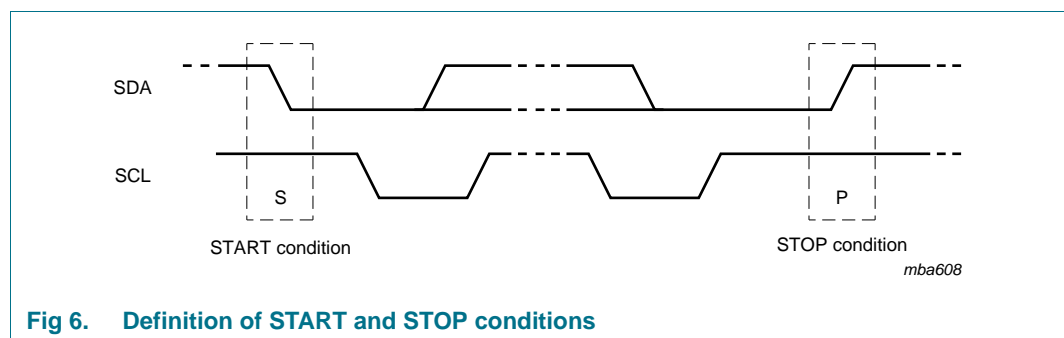

Fig 6. Definition of START and STOP conditions
Both data and clock lines remain HIGH when the bus is not busy. A HIGH-to-LOW transition of the data line while the clock is HIGH is defined as the START condition (S). A LOW-to-HIGH transition of the data line while the clock is HIGH is defined as the STOP condition (P) (see Figure 6.)